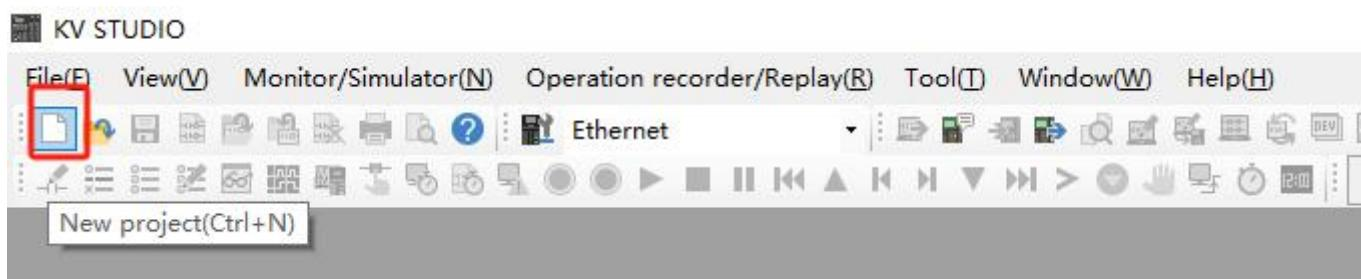

Figure 4-1-1
- shown in Figure 4-1-1 , open KV STUDIO V1 1 software, then select “ New Project” from the menu bar to create a new project: